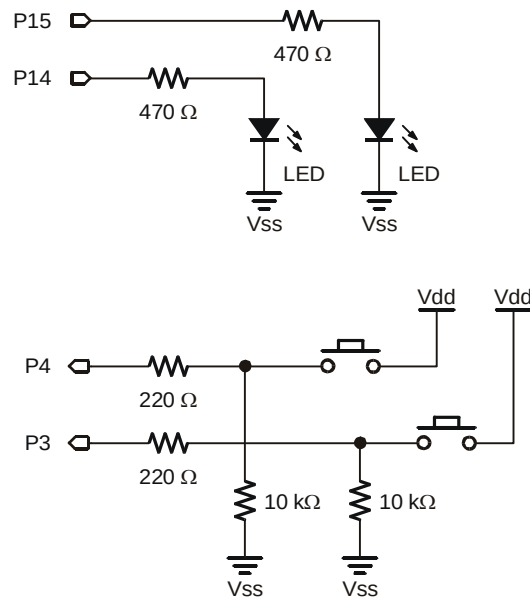
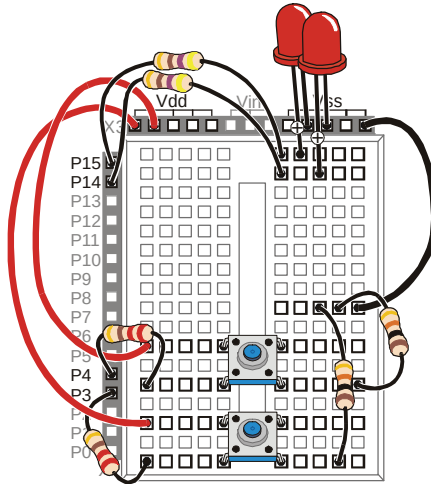

Figure 3-12
Figure 3-13
Figure 3-12 shows a second LED and pushbutton circuit added to the circuit you tested in the previous activity.
- ✓ Build the circuit shown in Figure 3-12. If you need help building the circuit shown in the schematic, use the wiring diagram in Figure 3-13 as a guide.
Dots indicate connections: There are three places where lines intersect in Figure 3-12, but only two of those intersections have dots. When two lines intersect with a dot, it means they are electrically connected. For example, the 10 kΩ resistor on the lower-right side of Figure 3-12 has one of its terminals connected to one of the P3 circuit's pushbutton terminals and to one of its 220 Ω resistor terminals. When one line crosses another, but there is no dot, it means the two wires DO NOT electrically connect. For example, the line that connects the P4 pushbutton to the 10 kΩ resistor does not connect to the P3 pushbutton circuit because there is no dot at that intersection.